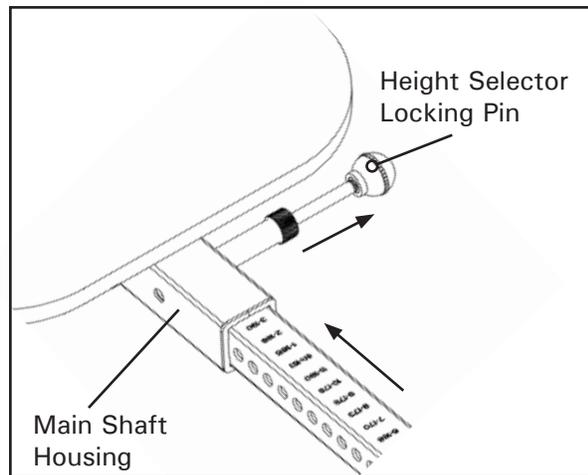

Figure 8
- With the height adjustment settings on the Main Shaft facing up, slide the end of the Main Shaft into the Main Shaft housing (Figure 8).
- Pull out the Height Selector Locking Pin to allow the Main Shaft to slide in farther (Figure 8). For the purpose of easy assembly, slide in the Main Shaft and release the pin in the last height setting (Refer to the Owner's Manual for proper height adjustment before use).